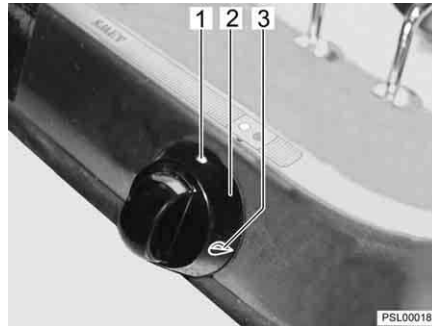

Fig. 59 Operating controls for gas cooker
- Turn the control knob (Fig. 59,2) on the burner you wish to use to the ignition position (large flame, Fig. 59,3).
- Turn the control knob to the 0-position (Fig. 59,1). The flame fades.